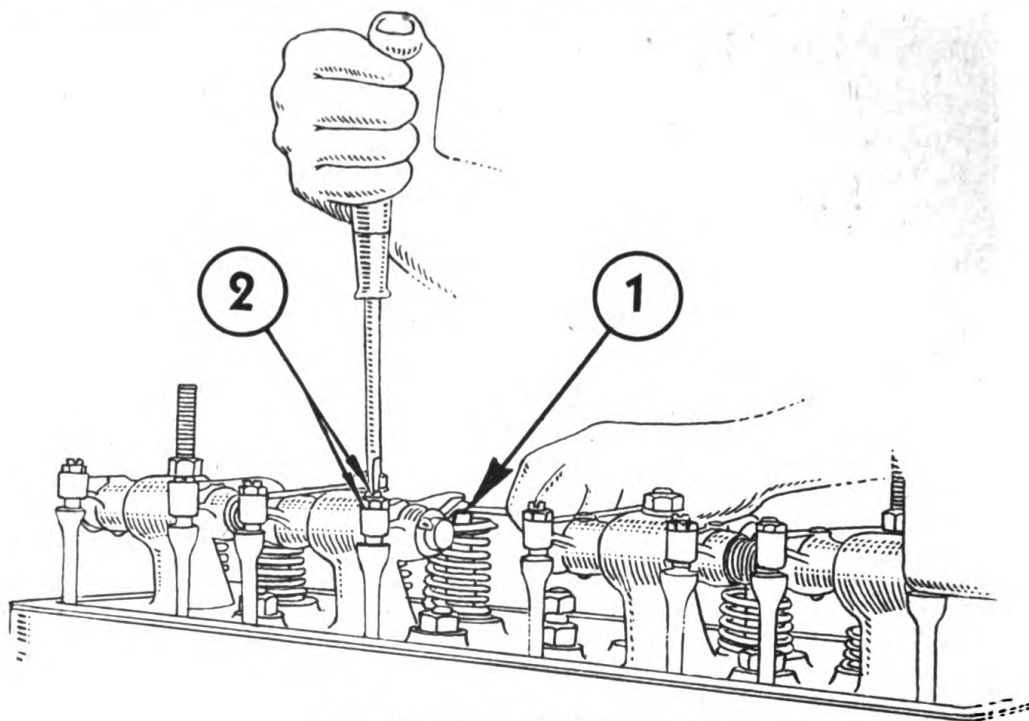

Fig. 18. Push Rod Adjustment
The clearance between rocker arms and ends of valve stems should be kept properly adjusted. The gap should be .018" when the valve is fully closed, and the engine warm but not running. A gauge .018" thick (1) Fig. 18 is furnished with each tractor, located on one of the long studs which passes through the rocker arm shaft brackets.
Crank the engine until the piston of No. 1 cylinder (next to cranking end) is at top dead center on the compression stroke. In this position the adjustment of both valves for this cylinder can be made. The adjustment of No. 3 cylinder is shown at (2) Fig. 18.
11. After grinding the valves the push rods are usually too long and should be adjusted to .018" when the engine is cold. Use the gauge furnished with the tractor for setting clearance. Refer to Fig. 18.